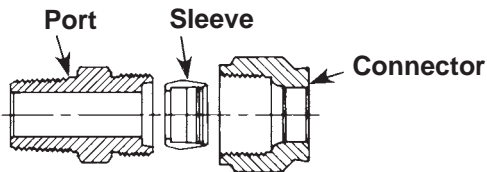
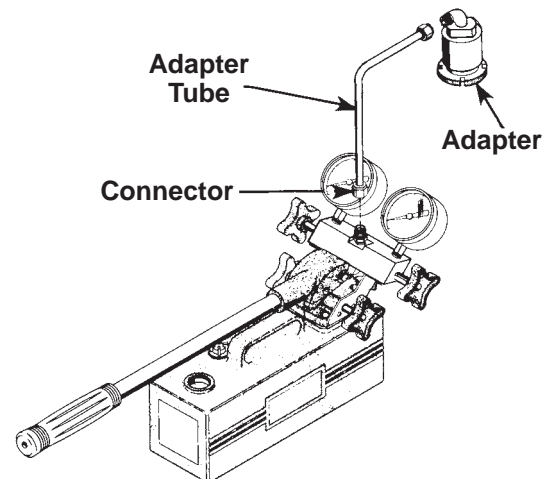

Figure 4
Figure 5
8. Slip the connector on the adapter tube. Place the sleeve inside the connector on the tube as shown in Figure 4. Install the tube assembly into the center port on top of the adapter block. See Figure 5.